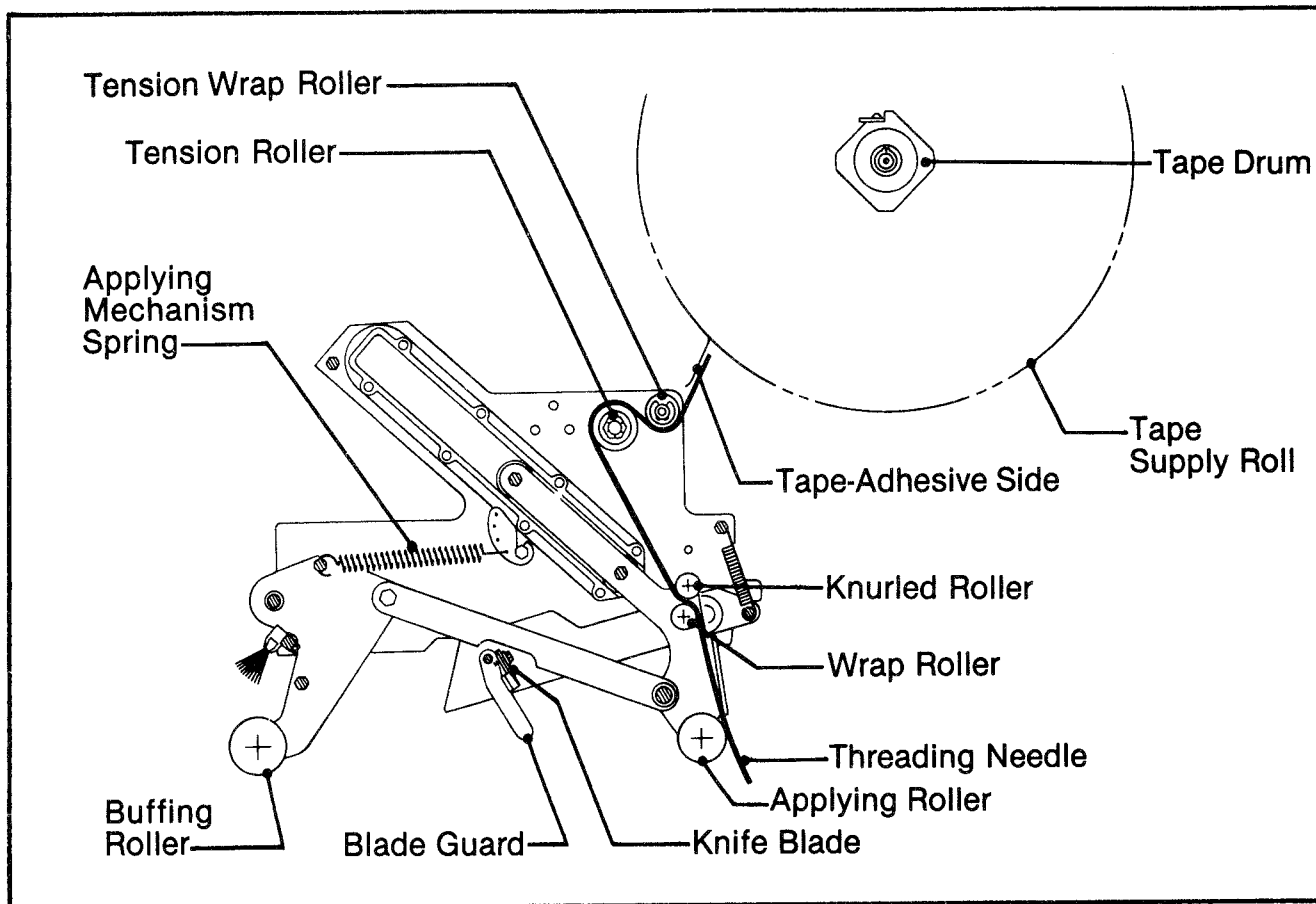
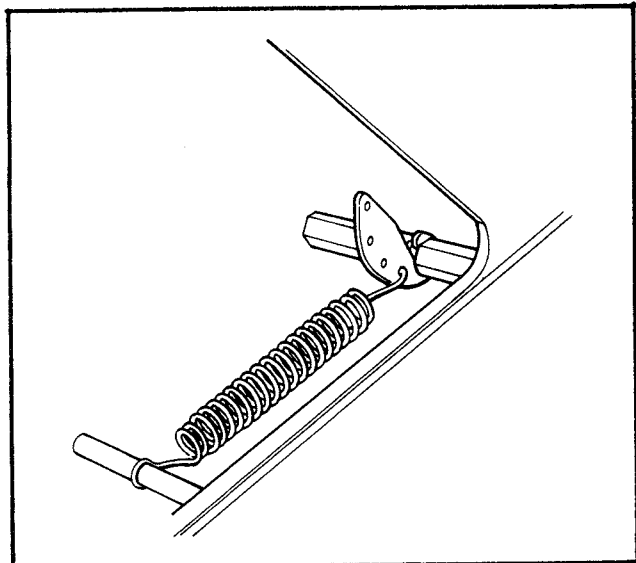
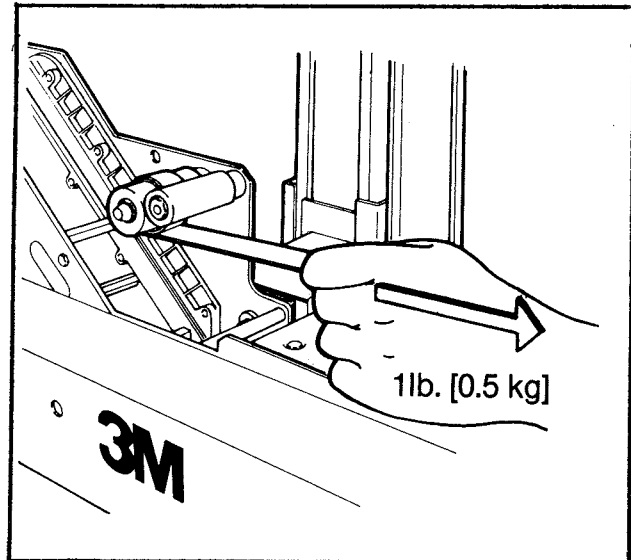

Figure 9A - Tape Threading Diagram - Top Taping Head - Left Side View
Figure 14
Figure 16
1. BOTH THE TOP AND BOTTOM TAPING HEADS UTILIZE EXTREMELY SHARP KNIFE BLADES ON THE ORANGE CUTTER LEVER ASSEMBLY AND WHICH ARE LOCATED UNDER THE BLADE GUARD WHICH HAS THE "CAUTION - SHARP KNIFE" LABEL. BEFORE WORKING WITH THE TAPING HEADS OR ATTEMPTING TO LOAD THE TAPE, REFER TO FIGURE 9A AND IDENTIFY THE BLADE LOCATION. KEEP HANDS OUT OF THESE AREAS EXCEPT AS NECESSARY TO SERVICE THE TAPING HEADS.
2. With the temporary threading needle already in position, as shown in Figure 9A, follow the tape loading procedure from Figure 9C to complete the tape threading.
3. For subsequent tape loading operations, use the red plastic threading needle and follow the loading procedures from Figure 9A to complete the tape threading.
The applying mechanism spring, shown in Figure 9A, **controls** applying and buffing roller **pressure** on the box and **returns** the mechanism to the **reset position**. The spring pressure is **pre-set**, as shown in Figure 14, for normal operation but is adjustable.
The one way tension roller, shown in Figure 9A, is **pre-set** for normal operation. Should the one way tension assembly require replacement, the roller must have **1 pound [0.5 kg] tangential force** when turning as illustrated in Figure 16.